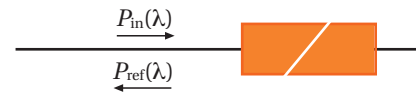

Figure 2 Schematic diagram for defining return loss
i. e. as a positive number, if $P_{ref} < P_{in}$ applies (see Figure 2).